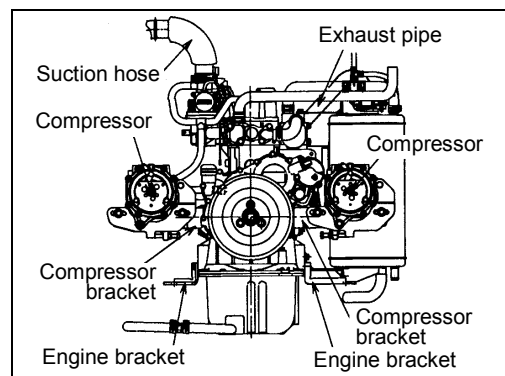

Fig. 4
- [5] Remove the exhaust heat exchanger. See Fig. 4.
- [6] Remove the compressor. See Fig. 4.
- [7] Remove the engine. See Fig. 4.